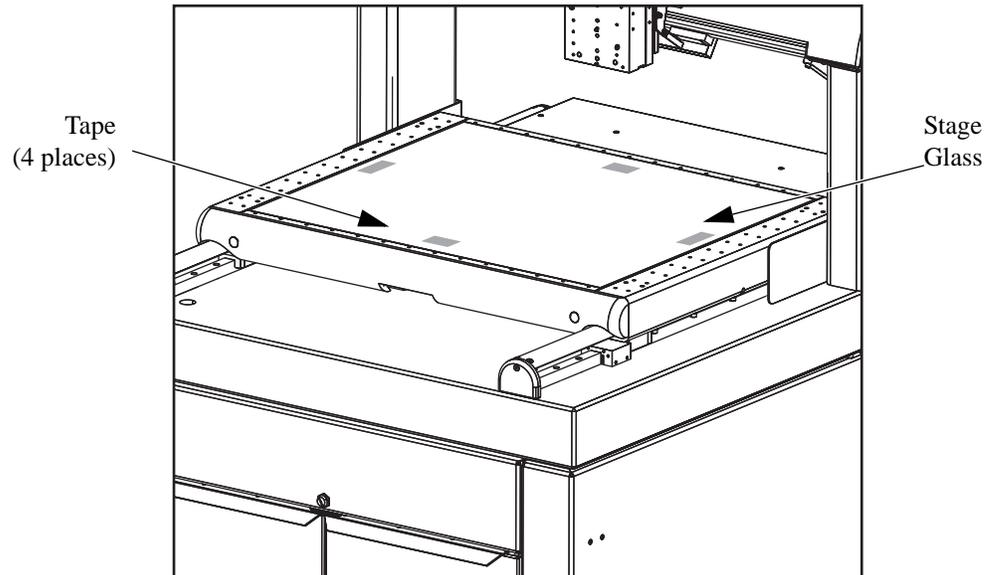

Figure 4-9 Tape Locations on the Stage Glass
- Bracket with a straight bottom edge (4)
2. Attach four pieces of masking tape (or similar tape) to the stage glass in the approximate locations shown in Figure 4-9.